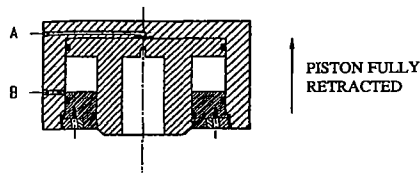

Fig 3a
Begin with the piston fully retracted (Fig. 3a) and nothing inside the sample compartment (i.e. no load).
- 6.2.4 Keep running the piston upwards until piston is fully retracted (Fig. 3a).